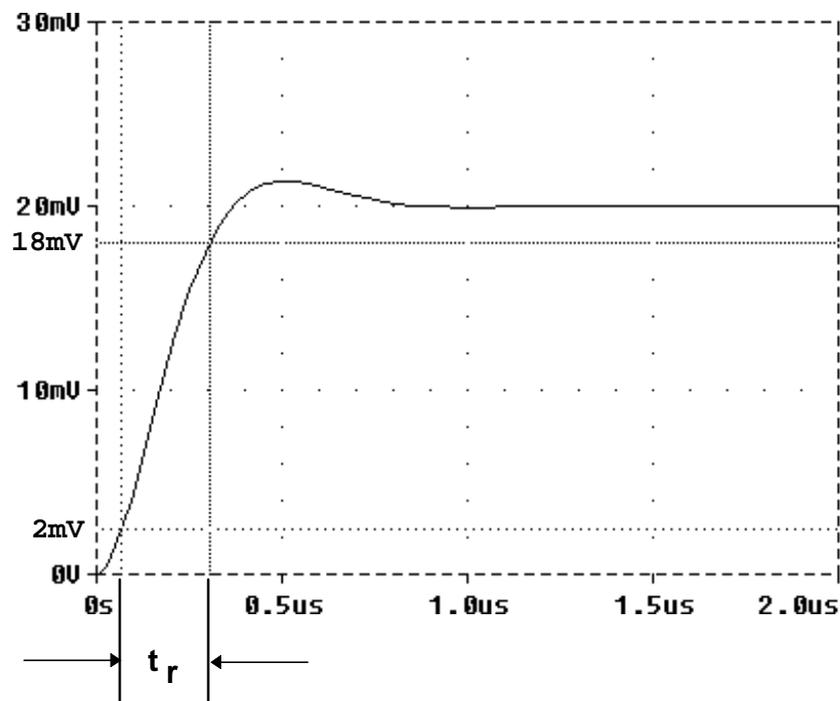

Figure 10.2 Transient response of 741
- ☑ It is possible to obtain unity gain bandwidth from the manufacturer's plot of open loop gain vs. frequency or from the specification (see figure 10.2) called **transient response rise time** (unit gain).
- b) Figure 10.2